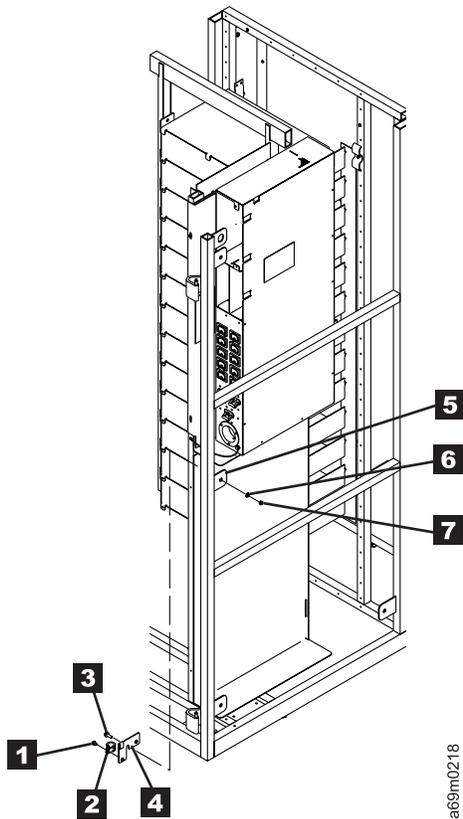
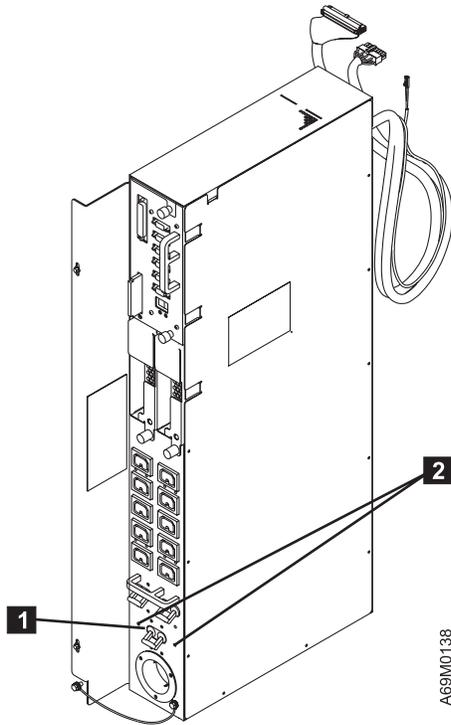

Figure 54. Securing 110V Power Cord
Figure 55. FCA Assembly
- ___ 6. If you are installing a 110V FCA (FC 1452 with SC 9951) a 110V power cord strain relief bracket must be installed. These parts are provided with the 110V FCA. See Figure 54 for the following steps:
- ___ 10. Ensure that the library power switch (located on the front panel, below the operator panel) is OFF (O).
- ___ 11. Connect the AC power cords into the FCA receptacles in the rear of the base and any expansion frames. See Figure 55 on page 119.